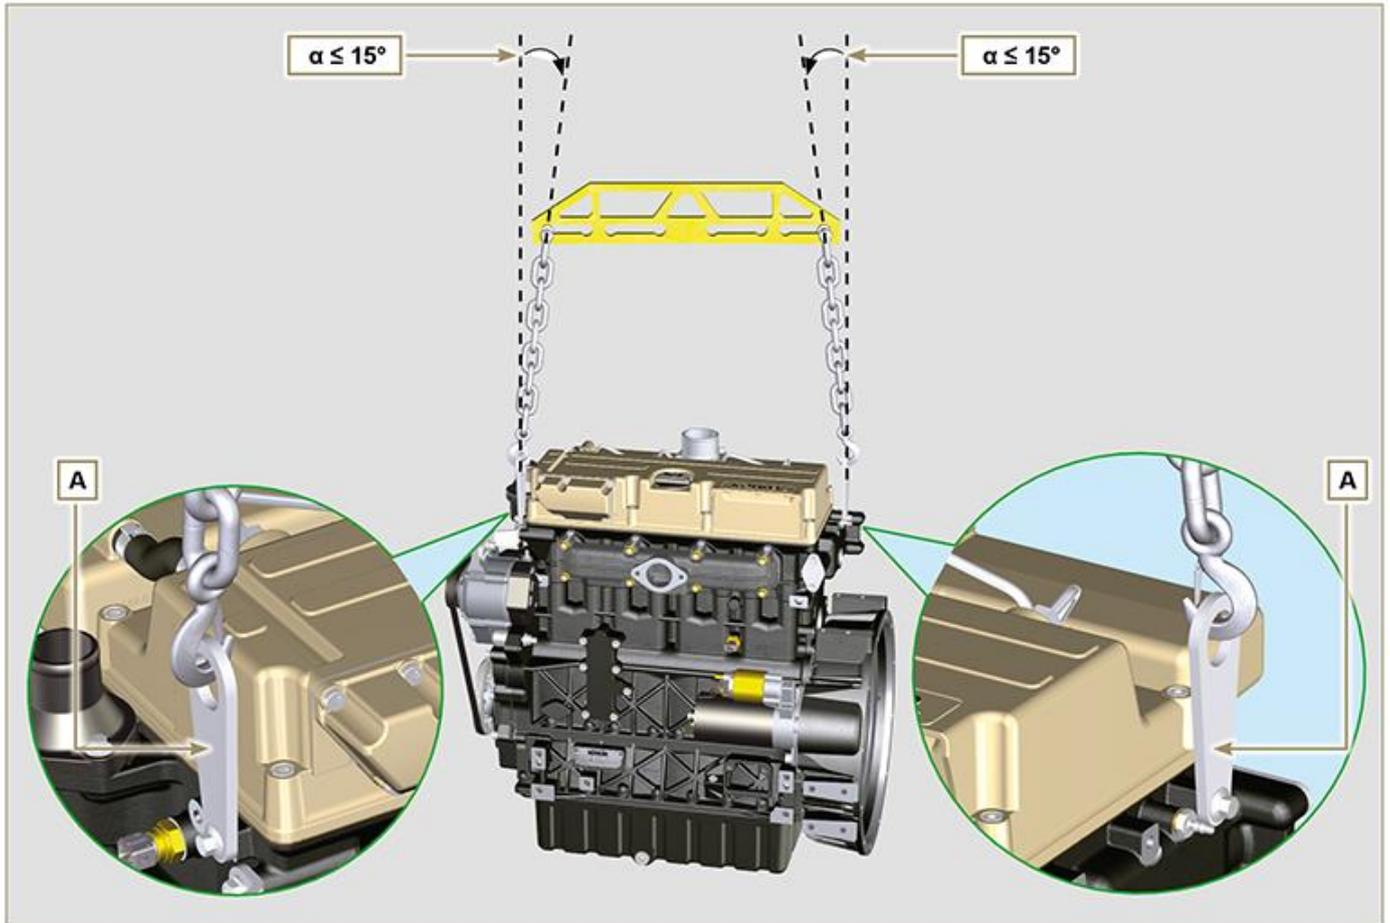

Fig. 3.1
- Only use the eyebolts **A** installed by **REHLKO** to move the engine (**Fig. 3.1**).